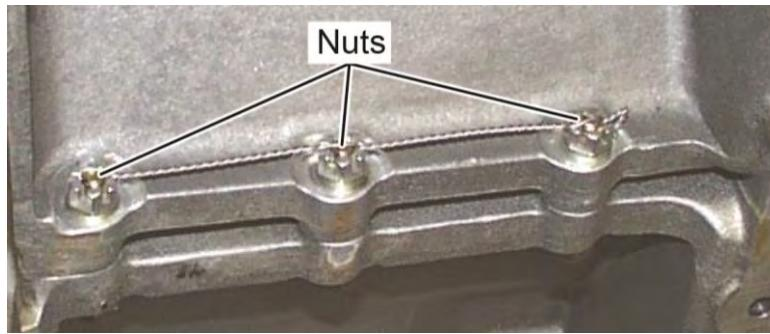

Figure 79
- (20) Before the oil sump is installed, safety wire the nuts that will be inside the oil sump (Figure 79).